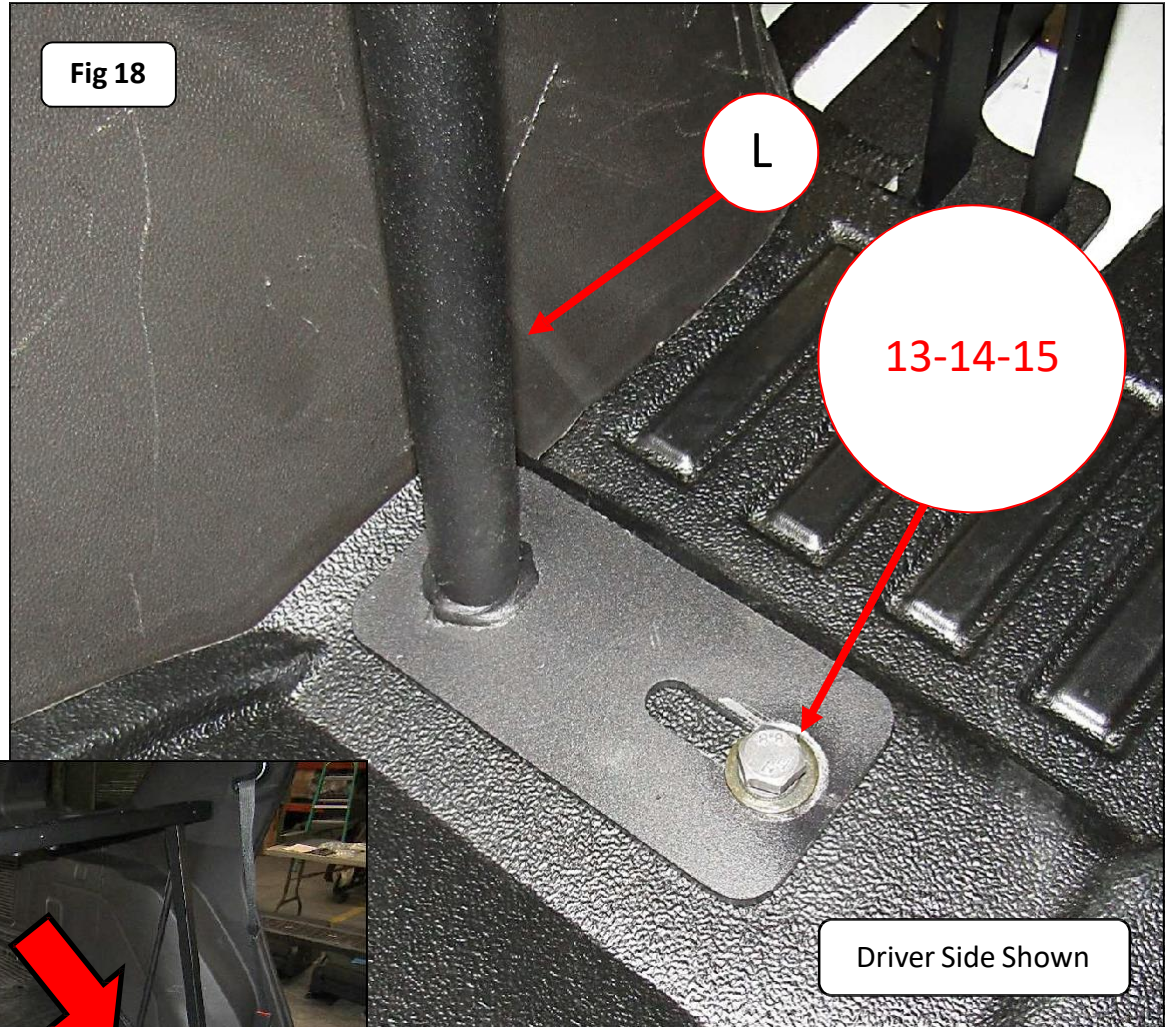

Fig 18
Step-19 Align the slot hole in the base plate at the opposite end of the Floor Strut (Left Side) with the Hex Nut 1/2"-13 placed in the rubber mat and the threaded insert in the floor of the vehicle. Attach the Floor Strut (Left Side) base plate to the floor of the vehicle using (1) Hex Head Screw M10-1.5 X 35MM, (1) Split Lock Washer M10 and (1) Flat Washer M10, {Fig 18 & 19}. Do not tighten the Hex Head Screw. Repeat step 18 and 19 to install the Floor Strut (Right Side).